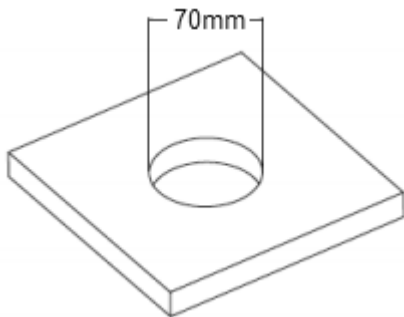

Fig. 1
- Cut a suitable hole in the mounting surface as per the cut-out details (see Fig. 1) ensuring not to infringe with any joists, gas/water pipes or electrical cables